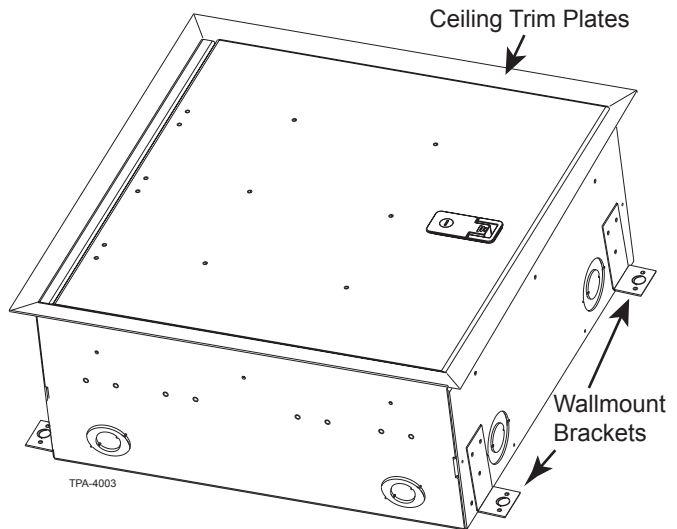

Figure 9
Step 1: Install (4) supplied wallmount brackets to the FZB using the provided screws.
Step 2: Install ceiling trim plate kit ((p/n FZB-04U CLG) as shown in Figure 9.